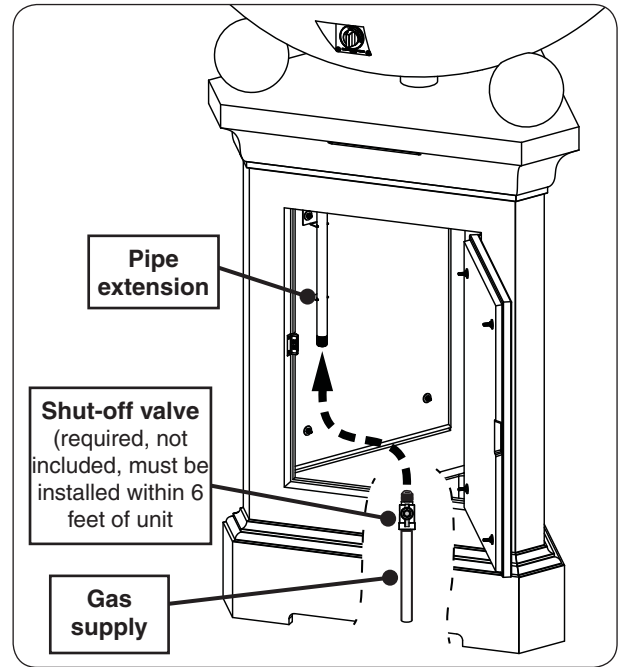

Fig. 30-1 Connecting to a gas line
2. Plumb the gas supply to the  $\frac{1}{2}$ " pipe extension (that is mounted to the interior wall of the pedestal). See Fig. 30-1.